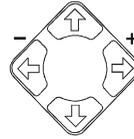

Figure 29: Navigation Control Keys
- Using the navigation control keys on the infra-red remote control transmitter (see Figure 16), to fine tune the zoom position (that is, to slowly zoom-in at any location on the screen)2, as Figure 29 illustrates